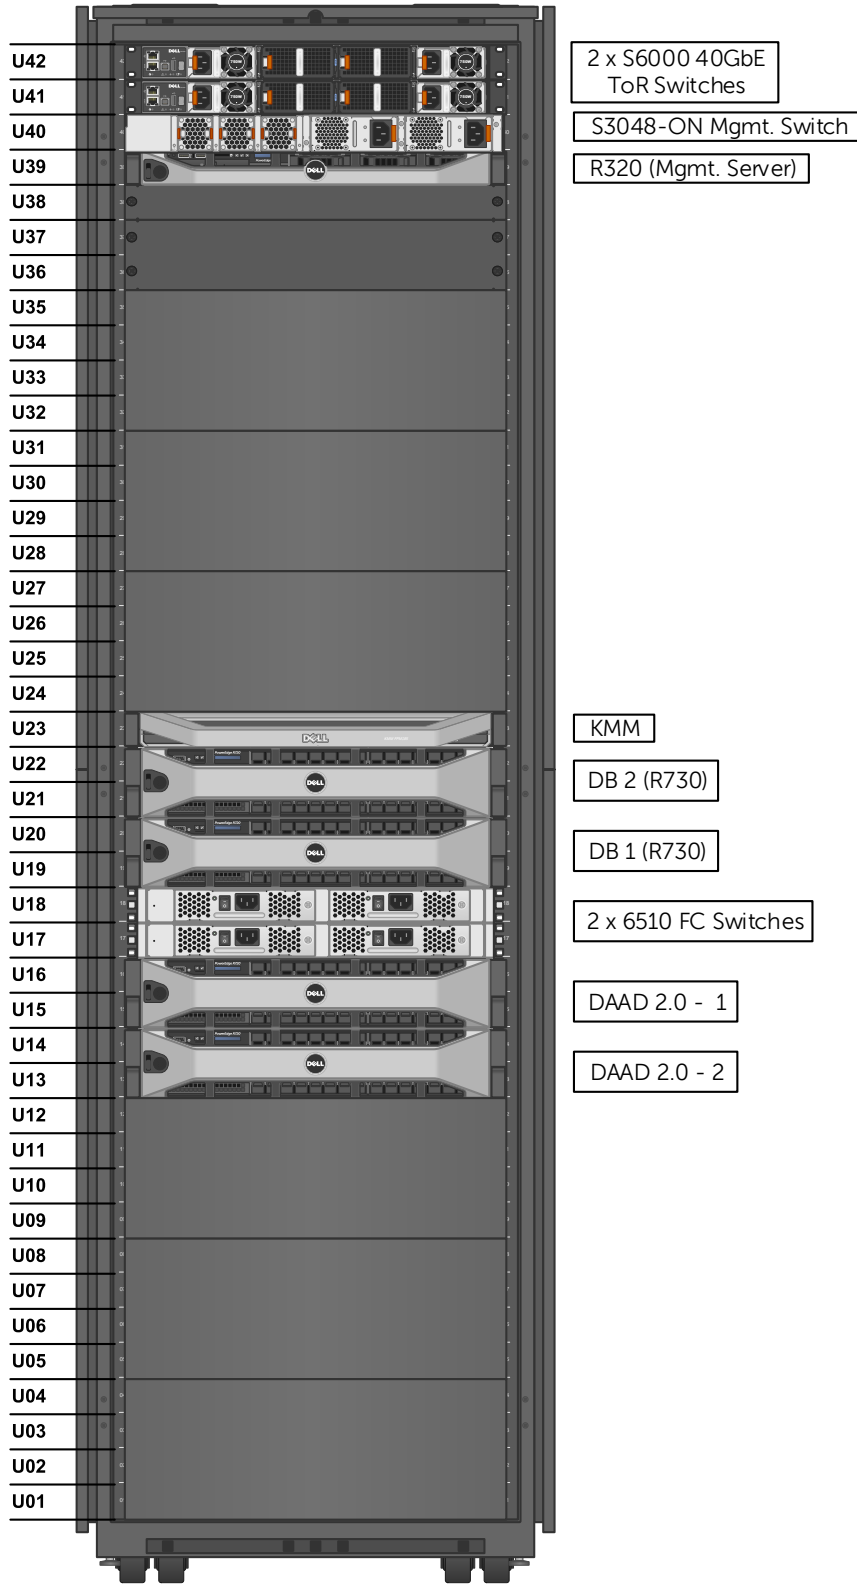

Figure 1 Fibre Channel-based DISOD 2.0 rack layout – base (2x2) configuration
The rack layout of a base (2x2) configuration of a Fibre Channel (FC)-based DISOD 2.0 rack solution that uses R730 as the database nodes is shown in Figure 1.